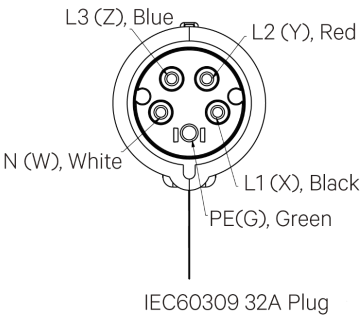

Figure 3
Two (2) input cable options are available which provide an input cord of various lengths and mating connector. Both support a wye/star AC input configuration. See Figure 3.
- ◆ Includes 5-wire 10 AWG AC input line cord. Factory connected at one end is a connector that plugs into a mating connector on the rear of the Power shelf and on the other end with an IEC, 530P6, 32 A plug. See Figure 3.